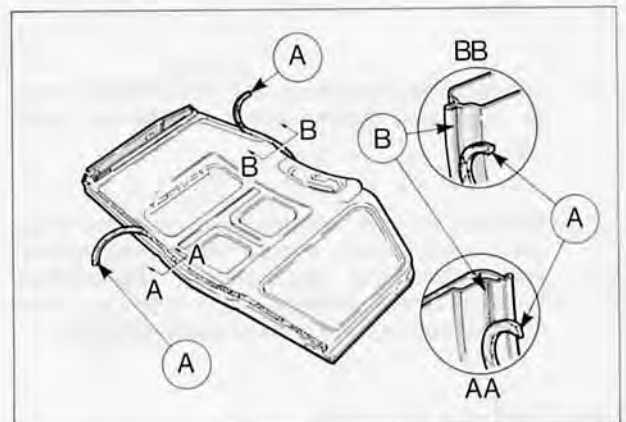

Fig. 28. Weatherstrip to door
3. Using adhesive to SQM-269101-A, or a suitable alternative, brush a film of adhesive around periphery of door inner panel in area of weatherstrip, Fig. 28 'B'.